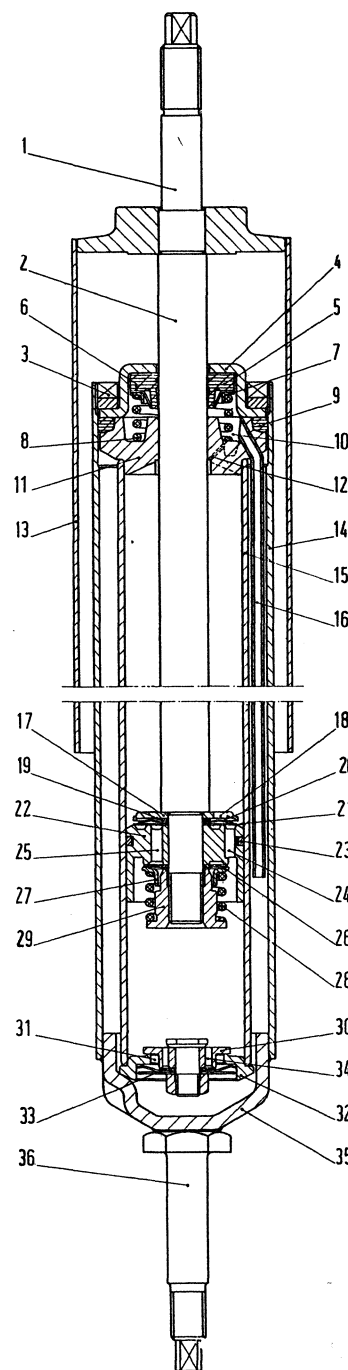

Fig. 320 - Section of shock absorber.
Essentially, a shock absorber of this type consists of a cylindrical body formed by two coaxial tubes (14 and 15, fig. 320) of which the inner one acts as a working cylinder and the outer one as a casing. The annular interstice between these two elements performs as a fluid reservoir.
The bleeder device consists of a capillary hole (12, fig. 320) interconnecting the inner cylinder (15) with the upper chamber (10), and of a passage tube (16) from upper chamber to fluid reservoir.
- g) capillary hole (12, fig. 320) is not plugged.